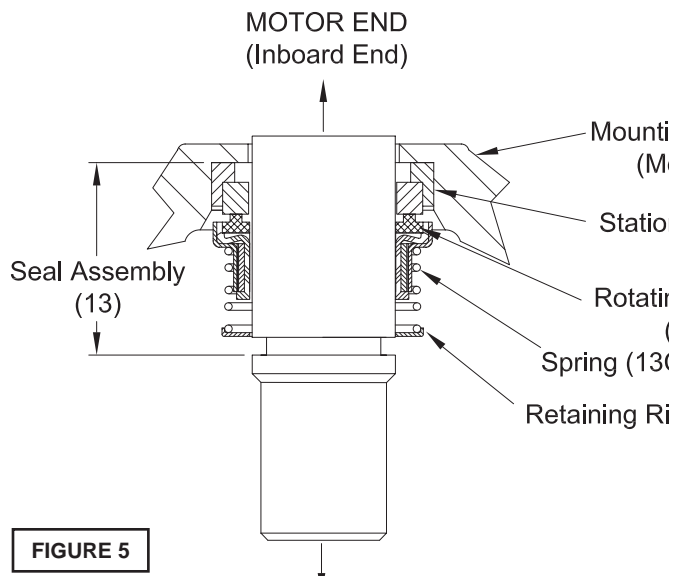
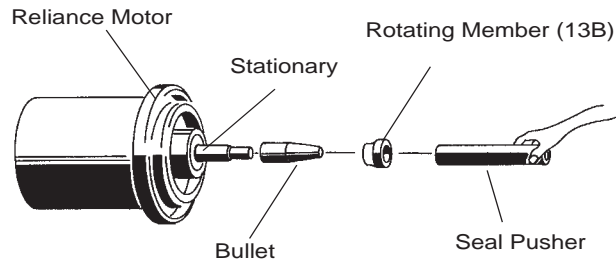

FIGURE 5
FIGURE 7
To expose outer shaft seal (13) for examination, remove Impeller and Volute per Section F-1.1. To disassemble adapter (11) and gasket (5) from motor (2), remove socket head cap screws (18) and lockwashers (4). Set motor assembly (2) in the up position to prevent loss of oil. Remove snap ring from motor shaft, then retaining ring (13D), spring (13C) and rotating member (13B) from shaft, See Figure 5. Examine all seal parts and especially contact faces. Inspect seal for signs of wear such as uneven wear pattern on stationary members, chips and scratches on either seal face. **DO NOT** interchange seal components, replace the entire shaft seal (13). If replacing seal, remove stationary (13A) from mounting plate by prying out with flat screw driver.
Make sure the stationary member is in straight and that the rubber ring is not out of its groove. Lightly oil (**DO NOT use grease**) shaft and inner surface of bellows on rotating member (13B) see Figure 7. With lapped surface of rotating member (13B) facing inward toward stationary member (13A), slide rotating member (13B) onto shaft using a seal pusher, until lapped faces of (13A) and (13B) are together. (see Figure 5).